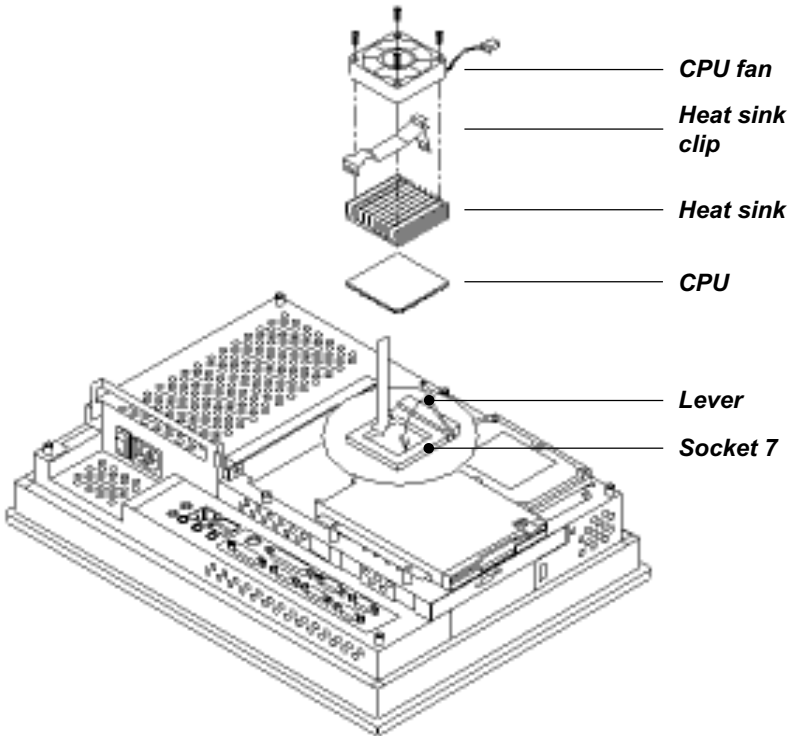

Figure 4-3: Installing the CPU
5. Insert the CPU with the correct orientation. The notched corner of the CPU (with the white dot) should point towards the end of the lever. The end of the lever is the blank area where one hole is missing from the corner of the square array of pin holes. An arrowhead printed on the motherboard points to the end of the lever. (See Fig. 4-3 overleaf.)
8. Place the heatsink on top of the CPU and tighten it with the heatsink clip (shown in Fig. 4-3).